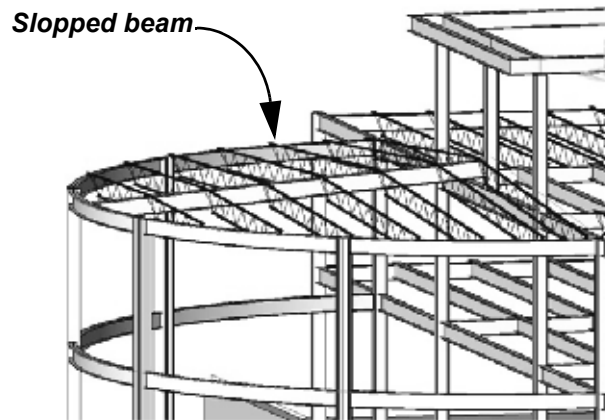

Figure 7–75
4. How do you create sloped beams such as those shown in Figure 7–75?